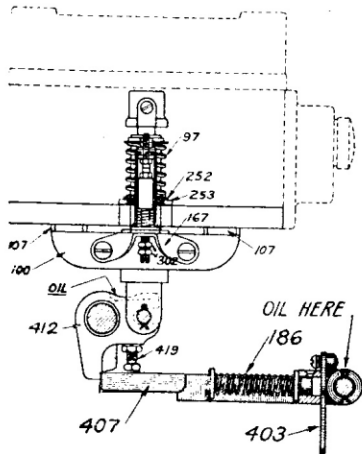
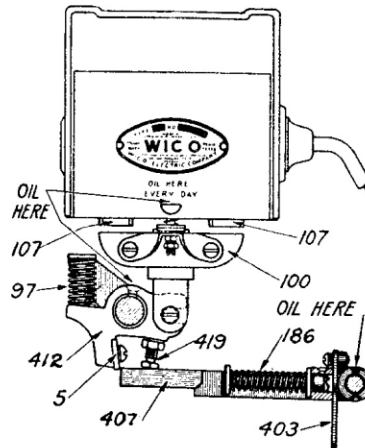

Figure 14
Figure 15
The numbers on Figures 14 and 15 will be used in the instructions on adjusting Wico Magnetos. Figure 14 is a cut of the type P.R. showing the position of the trip finger No. 407 and armature No. 100, just before the contact between armature No. 100 and the face of the cores No. 107 has been broken. Figure 15 is cut of type E.K. showing position of the trip finger No. 407 and armature No. 100 after the contact between armature No. 100 and the face of the cores No. 107 has been broken, also at the point where trip finger No. 407 trips off of rocker arm No. 412 causing armature No. 100 to return to its original position.
(See Figure 15)
Trip the armature (100) from its contact with the cores (107) and insert a strip of metal  $7/64$ " thick between the armature and the face of the cores. Move the push rod slowly until the latch of the trip finger reaches the rocker arm. The edge of the latch should then just engage the edge of the lip of the rocker arm, and the adjusting screw (419) should be bearing on the top side of the latch, (see figure 15) so that the least further movement of the push rod will cause the latch to slip off the edge of the rocker arm.